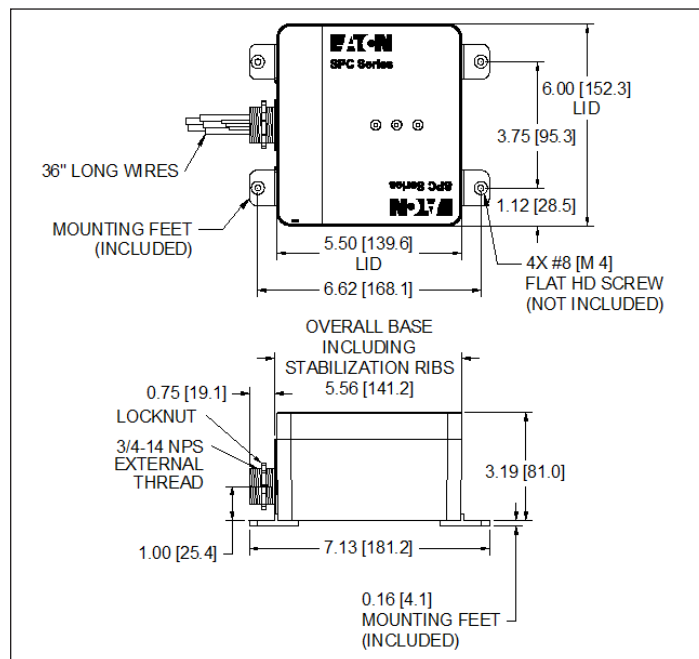

Figure 4. P1 Enclosure w/Mounting Feet Dimensions.
2. Verify that there is enough space to install the SPC. See Figures 4 & 5 for dimensions.
The mounting feet attach to the bottom of the enclosure with the provided screws (hardware to mount the feet to wall are not included). See Figure 4 and 5.